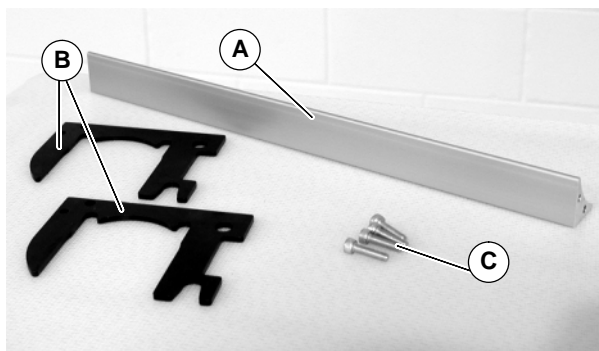

Figure 1
1. Gather components (Figure 1)